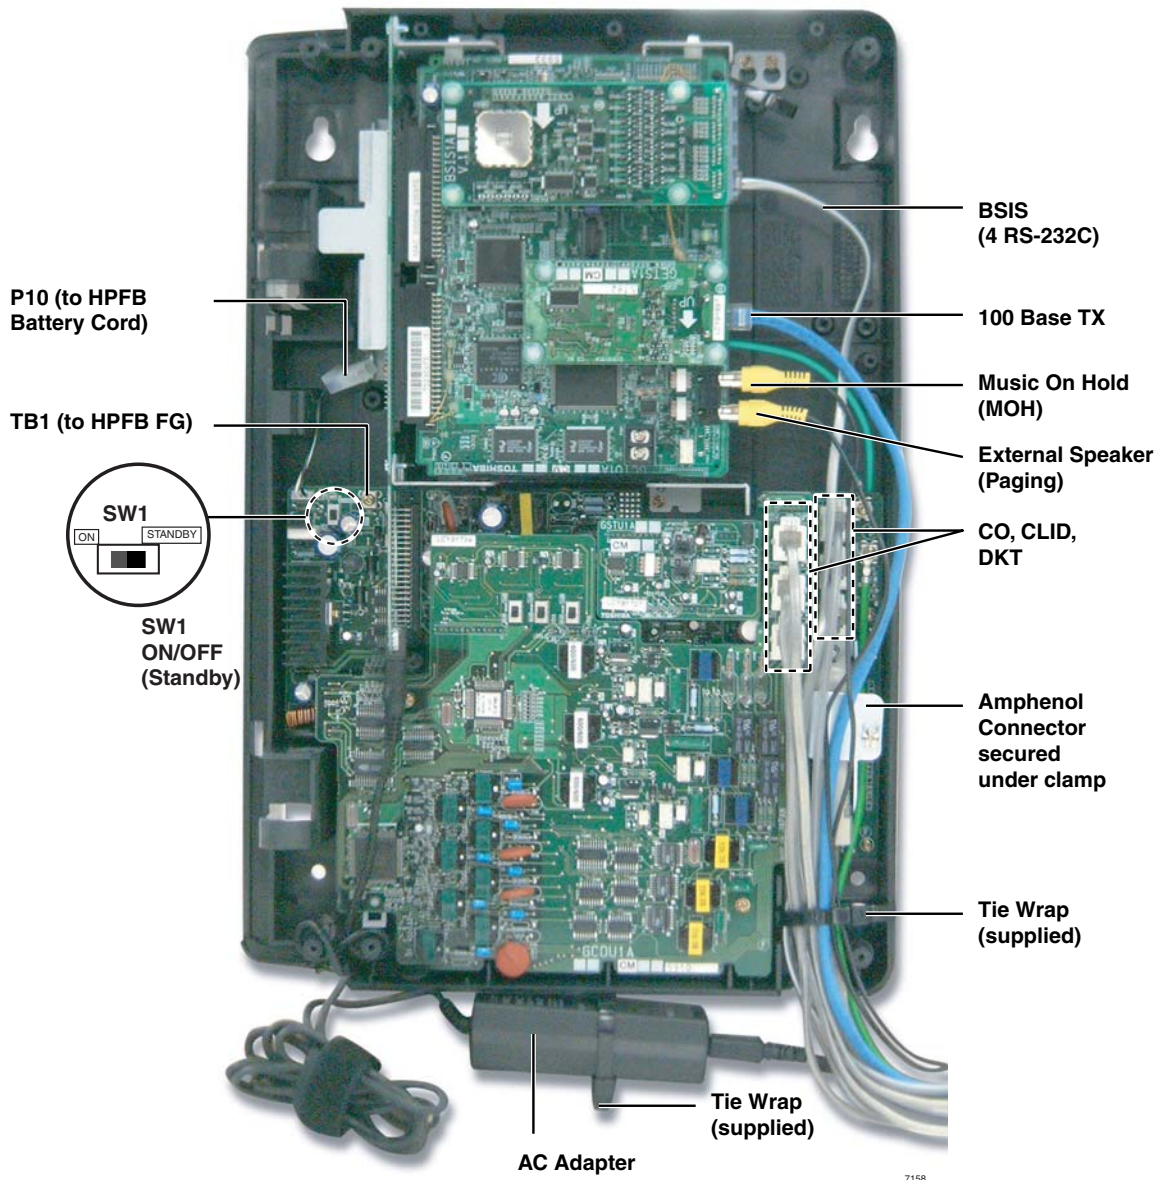

Figure 1-15 Standard Unit Wiring (without option units) and AC Adapter
1. Refer to Figure 1-15 for the following steps. Loosen the screw on the Amphenol clamp and remove the clamp. Plug in the 25-pair Amphenol connector and replace the clamp to hold the Amphenol connector in place.
3. Connect the end of the AC adapter cable to the GMAS PCB as shown in Figures 1-15 and 1-16.